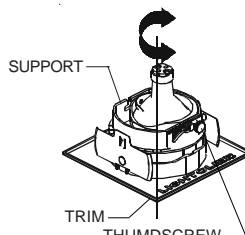
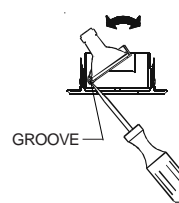

FIG.10
FIG.12
1. Apply slightly pressure on the thumbscrew so that lamp support can move freely. (Fig.10)
3. Insert a flat blade screwdriver in the lamp support groove (Fig.12), to adjust lamp orientation (Vertically and horizontally). (Fig.10 and 12).